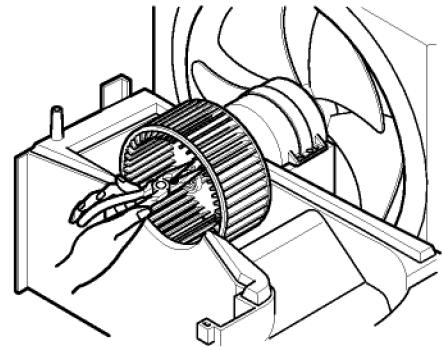

Figure 5
4. Remove the clamp with hand plier which secures the blower. (See figure 5)